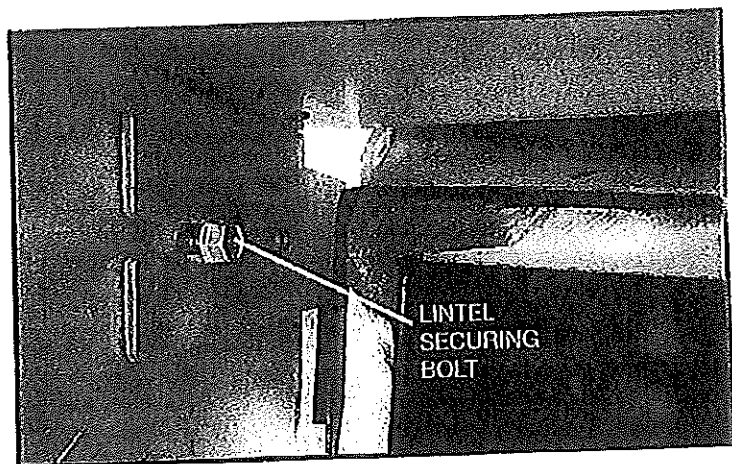

Figure 21: Lintel securing bolt.
4. Loosen the securing bolts in the upper and lower corners on each side of the lintel (Figure 21) and remove the lintel. Rotate the assembly to have the desired edge away from the fireplace.